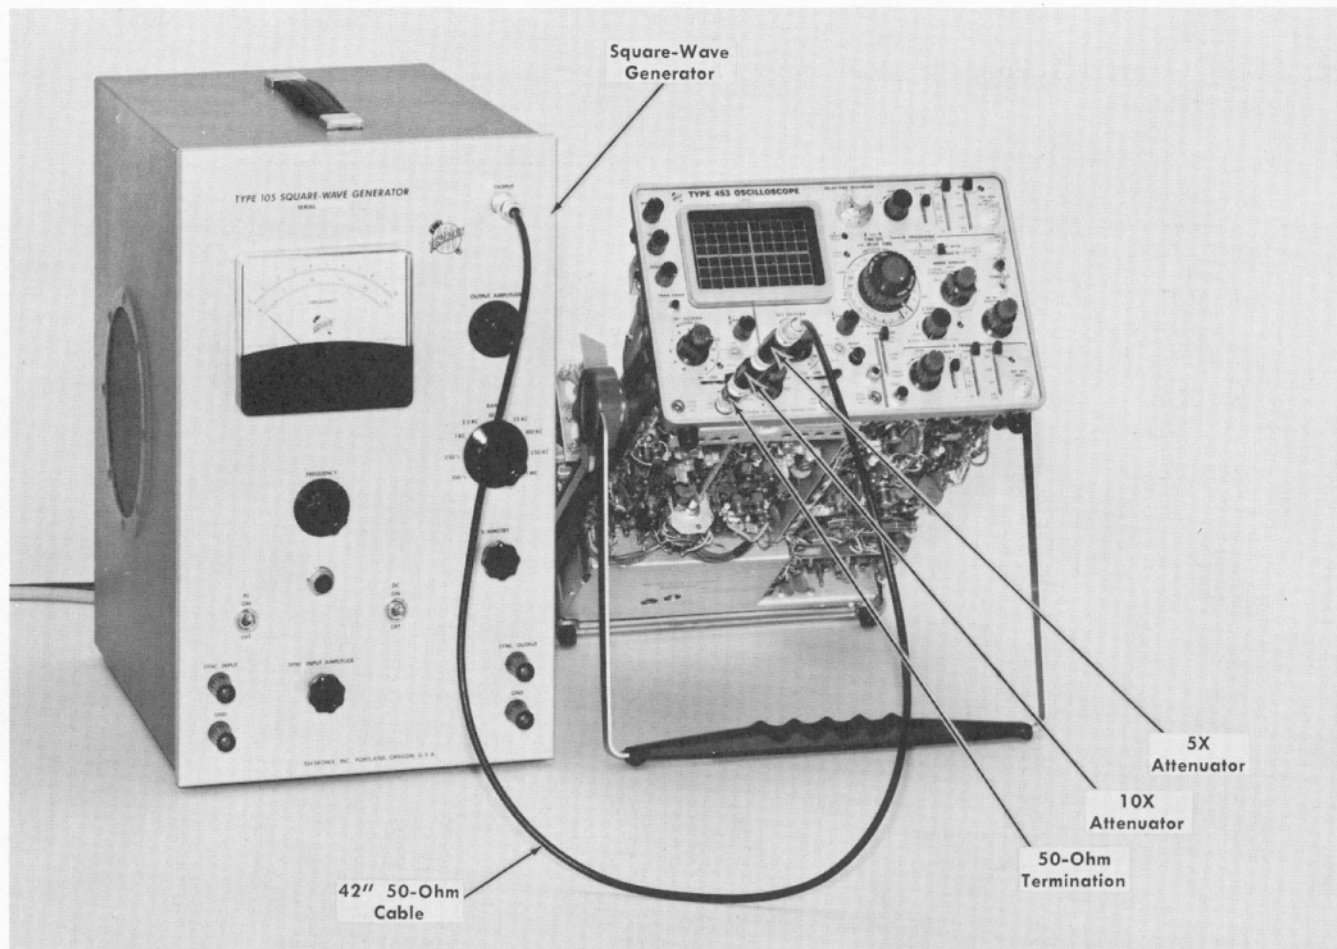

Fig. 6-26. Test equipment setup for step 23.
23. Adjust High-Frequency Compensation ①
- a. Test equipment setup is shown in Fig. 6-26.